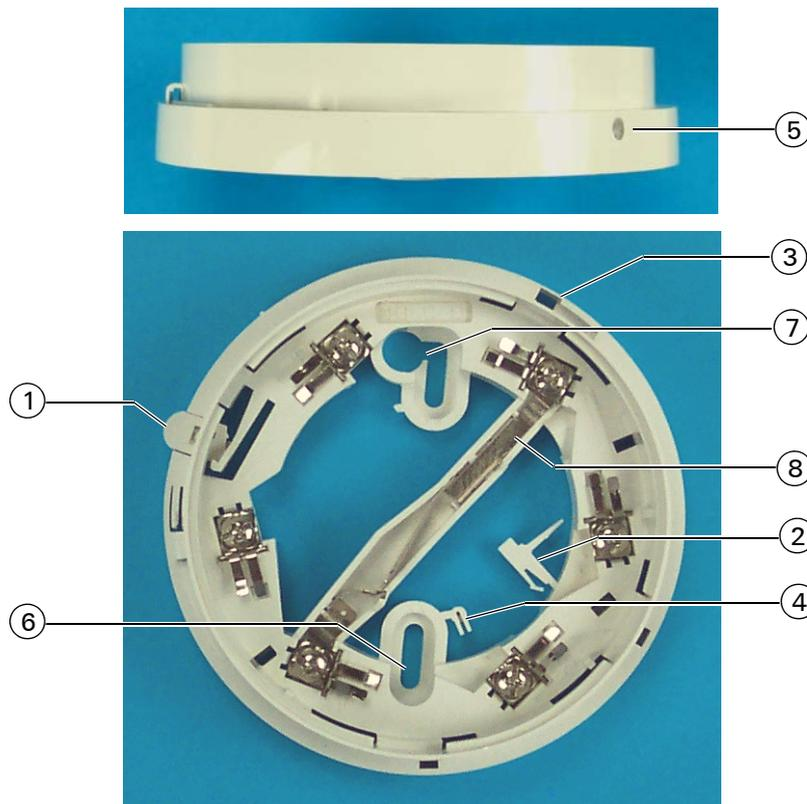
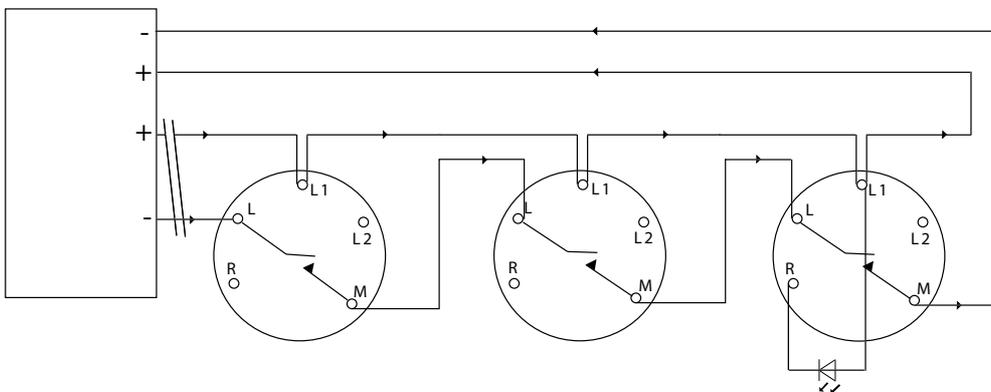

Fig. 1: 4B-C 4" base
Fig. 7: Typical implementation wiring diagram – 4B-C and 4B-EN Continuity Bases
Figure 1 shows a typical base in the series (the 4B-C). The numbered items are explained further throughout this guide.
| 4B-C  | Continuity base.For use with detectors that normally provide the continuity of the loop. On removing the detector a spring loaded contact closes to maintain loop continuity. The contact is item 8 in Figure 1.                                                                                                          | Use with 850 series detectors.               | Figure 7 on page 5     |
| 4B-EN | This is identical to the 4B-C, but approved for use in hazardous areas.                                                                                                                                                                                                                                                       | Use with 850 Type Ex 'n' approved detectors. | Figure 7 on page 5     |
- 1 Snap the pin free of the moulding (see Item 2 in Figure 1).
- 2 Depress and hold in the Temporary Park Plunger (see item 1 in Figure 1).